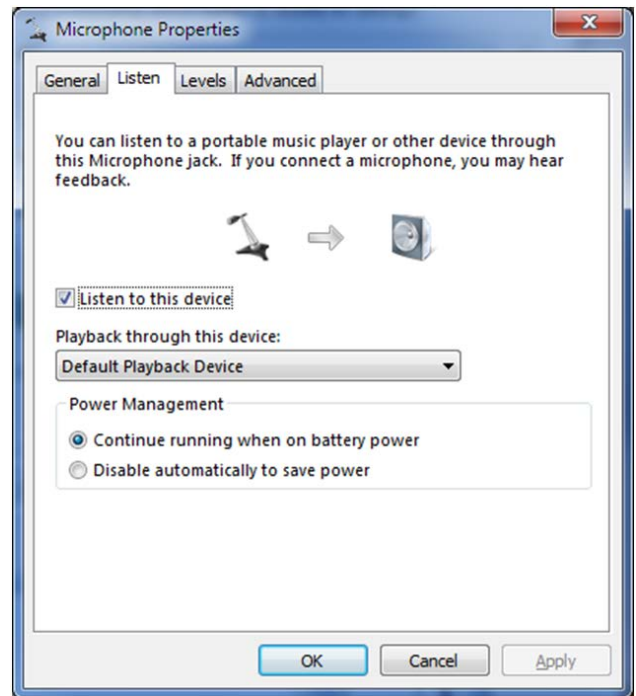

Figure 6. Windows Microphone Properties Window
You can control the properties of the ADMP441 USB audio device in Windows as follows. (The following steps and the screenshot in Figure 6 are for Windows 7. For other versions of Windows software, this procedure may vary.)
4. In the Microphone Properties window, click the Listen tab (see Figure 6).